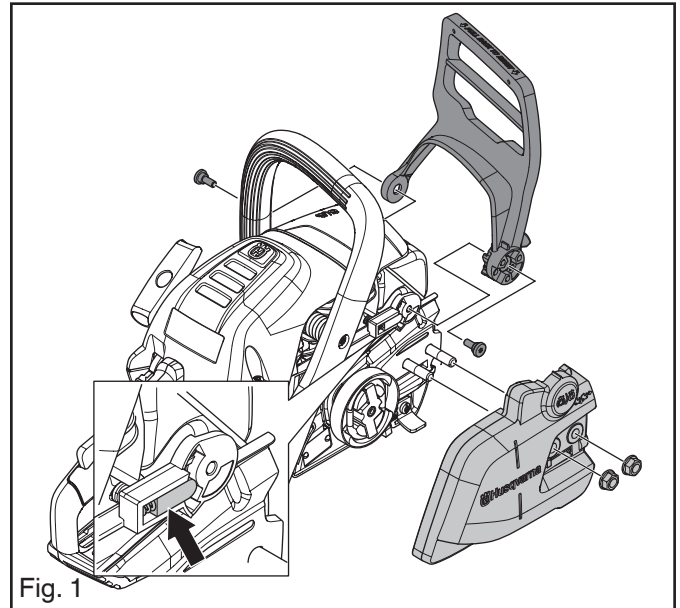

Fig. 1
1. Loosen the bar nuts and remove the clutch cover, guide bar and saw chain. See figure 1.
2. Remove the kickback guard by loosening the two screws. Make sure you do not loose the cap and spring. See Figure 1.